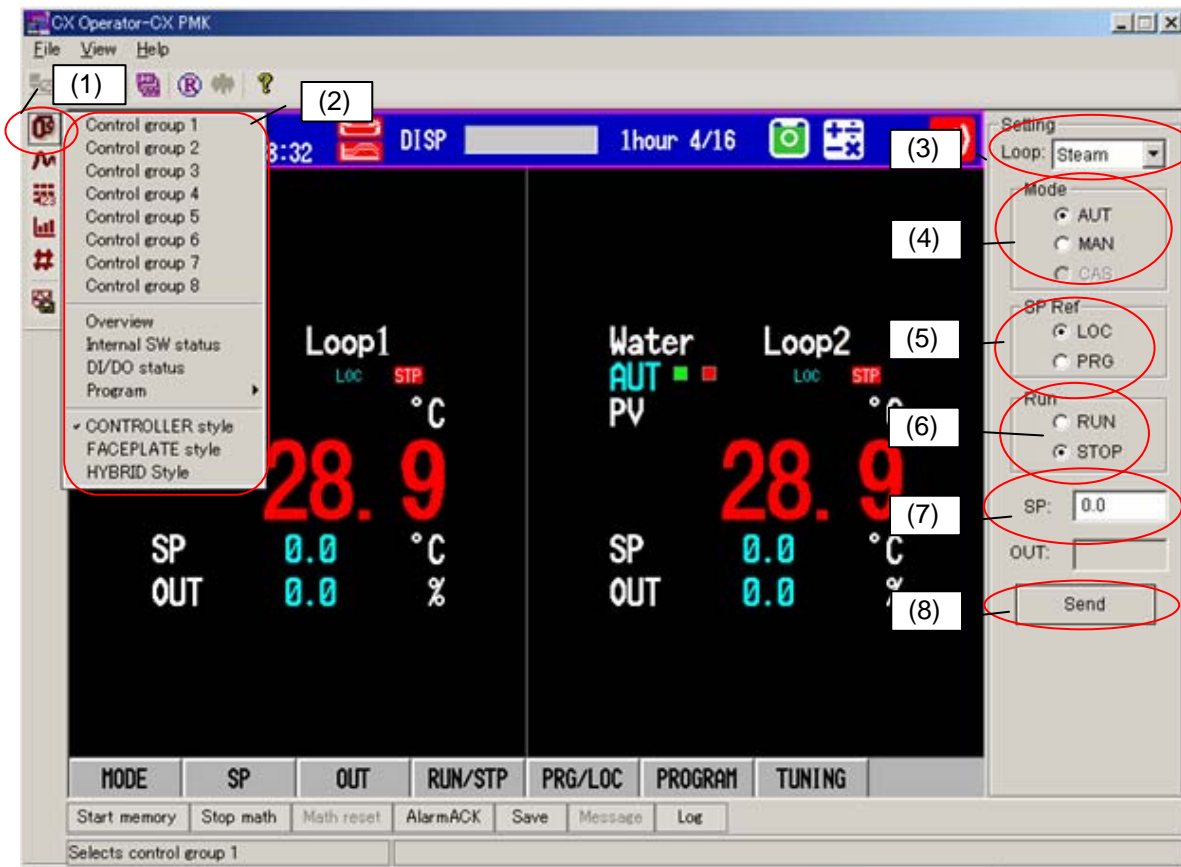

Figure 6 Control related screen
When the "program" is selected in figure 6 (2), a program selection screen is displayed (figure 7).